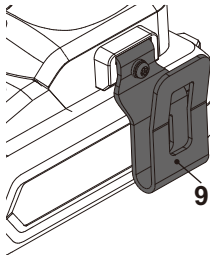

Fig. 10
1. Set the forward / reverse rotation control (4) in the middle position (lock) (Fig. 10).
2. Align the belt clip (9) with the slot and fix it with supplied screw. (Fig. 10).